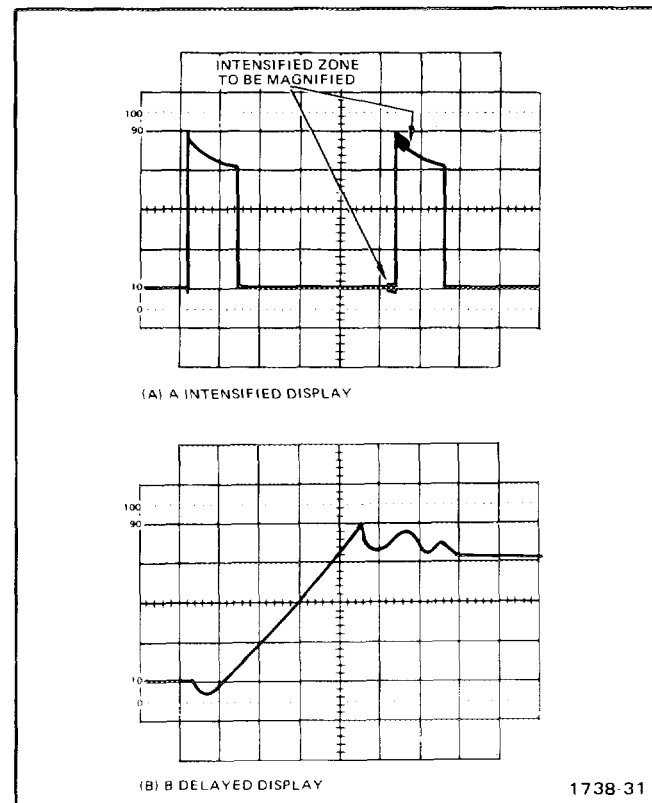

Fig. 26. Delayed sweep magnification.
6. Set the B TIME/DIV switch to a setting which intensifies the full portion to be magnified. The start of the intensified zone remains as positioned above (see Fig. 26).
7. Set the HORIZ DISPLAY switch to B DLY'D to magnify the portion of A sweep that is intensified (see Fig. 26).